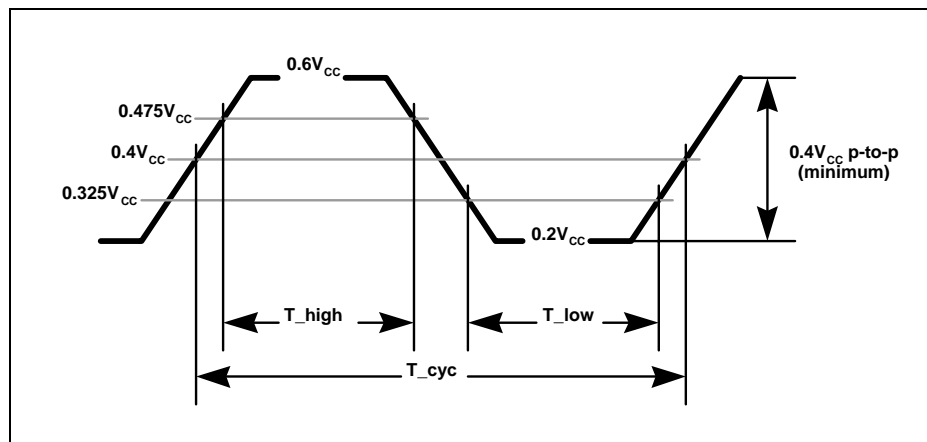

Figure 26. PCI/CardBus Clock Waveform
The 82559ER uses the PCI Clock signal directly. Figure 26 shows the clock waveform and required measurement points for the PCI Clock signal. Table 21 summarizes the PCI Clock specifications.
2. Rise and fall times are specified in terms of the edge rate measured in V/ns. This slew rate is met across the minimum peak-to-peak portion of the clock waveform as shown in Figure 26.